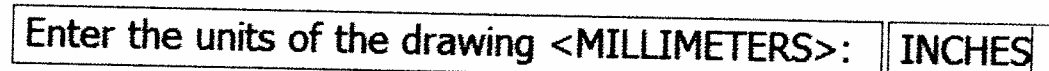

Figure 6-13b
5. If necessary, change the value of the data field; and press the *Enter* key to move to the next prompt. At the prompt to enter the units of the drawing, Figure 6-13b, the user decided to change the units, change the units to *INCHES* and press the *Enter* key.